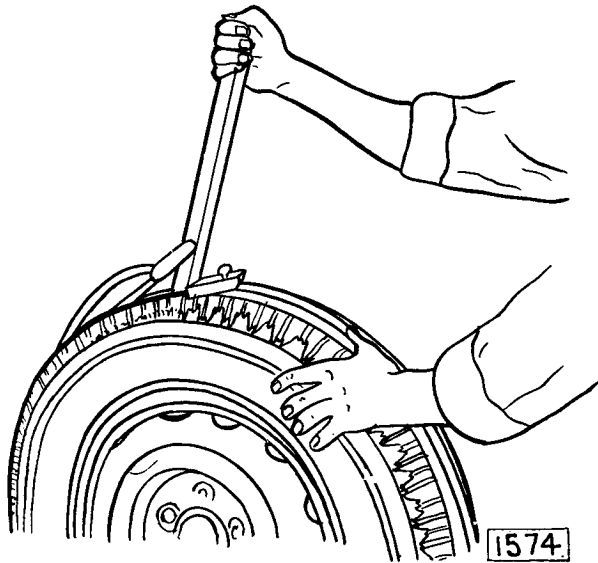

Fig. 21. Tightening tourniquet to seal beads.
2. Thread the loose end of the strap through gap between rivet and roller on the link mechanism and compress tread by pulling handle through 180° (Fig. 21).